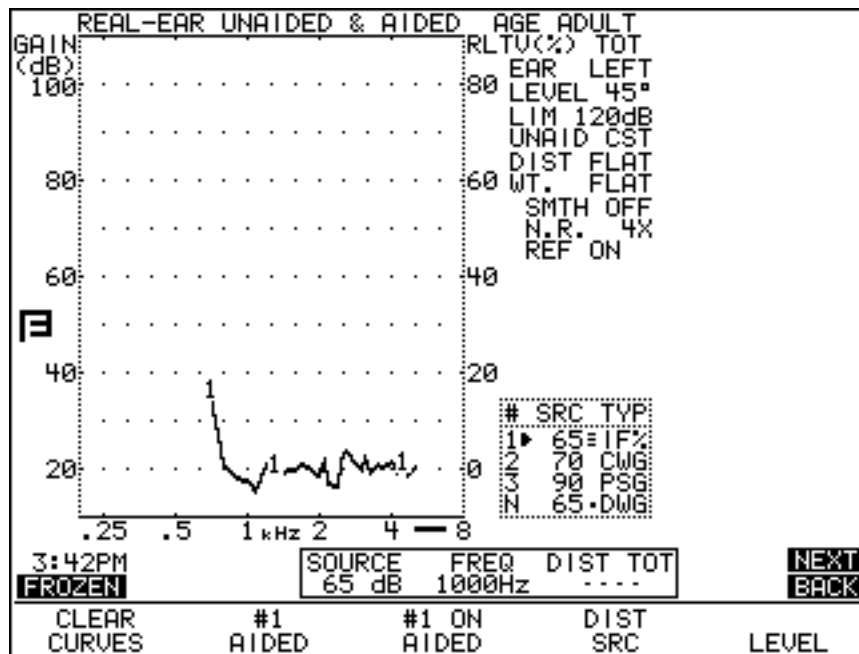

Figure 5.7.3.2—Real-Ear IM distortion sweep
14. Press [START/STOP] to start the IM distortion sweep. See Figure 5.7.3.2. The measurement will stop when finished. The percentage scaling for the measurement is located on the right side of the graph. Notice the thick line below the lower right corner of the graph. This is an indication that the current selected measurement uses the right side scaling.